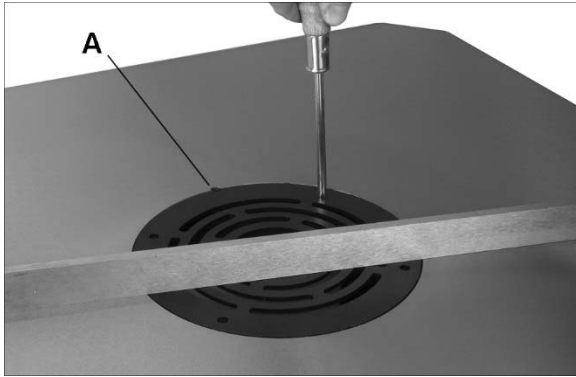

Figure 6: mounting table insert
1. Position insert into table, so that notch is captured by the pin (A, Figure 6).